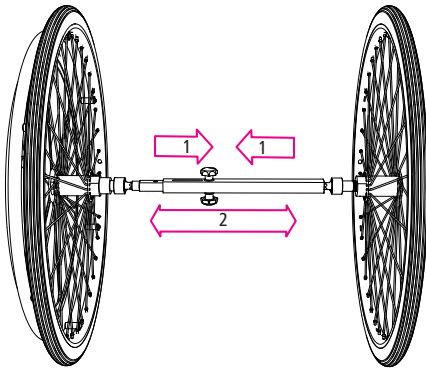

Fig. 14
2. To do this, grasp the connecting rod and pull it together towards the centre (1, Fig. 14).
4. If single-handed operation is to be used again, the wheelchair must first be unfolded (Chapter 3.1). The spring-loaded connecting rod can then be assembled onto the axle of the single-handed drive (2, Fig. 14).